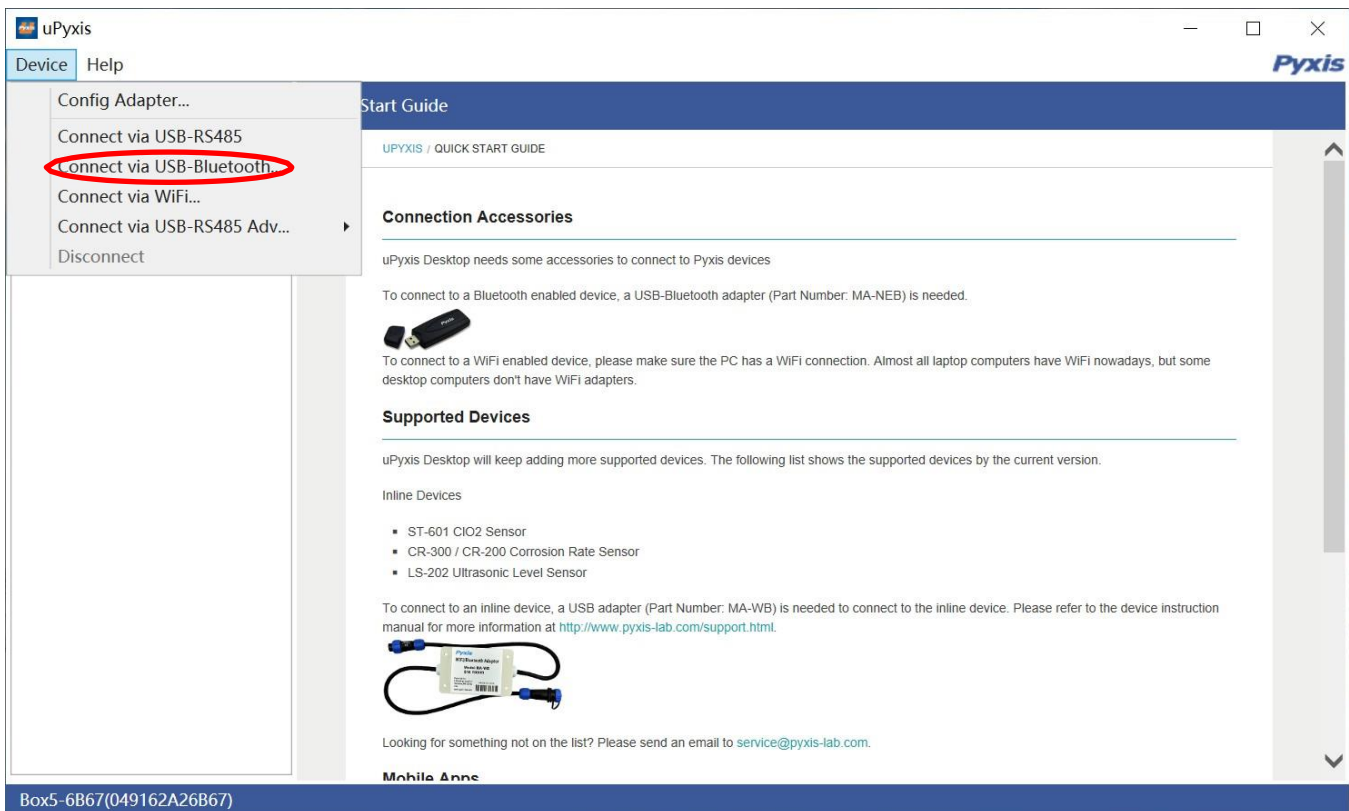

Figure 14. Connection Options
4. Select the Comm Port to make a connection. Normally only one Comm port is identified by uPyxis *Figure 14*. If more than one Comm port listed in the selection dropdown, you may try to select each one to see if a connection can be made. Alternatively, you may use the Windows Device Manager to identify the Comm Port that the Pyxis USB adapter is using.